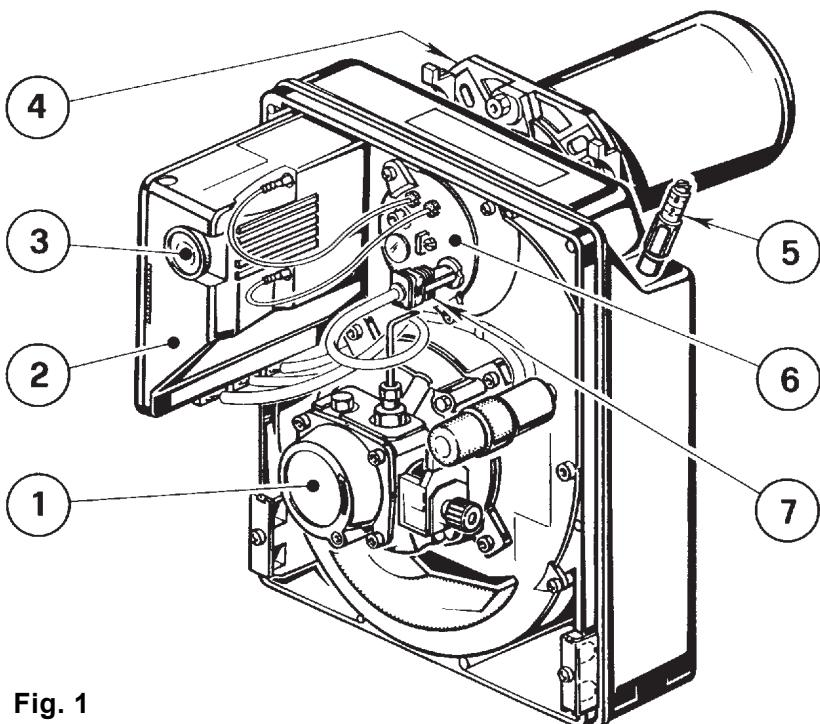

Fig. 1
- Clean the flame sensor, (7, Fig. 1, page 1).
A fault usually makes the lock-out lamp light which is situated inside the reset button of the control box (3, Fig. 1, page 1).